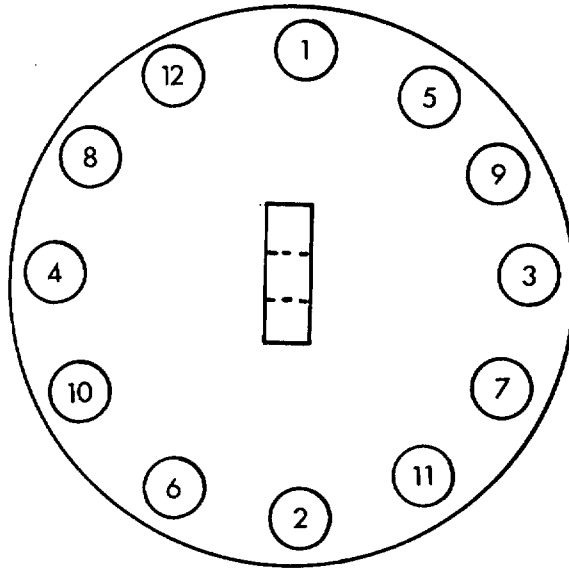

Figure 2-5. Treatment Tank Cover Torque Sequence.
- g. Connect the bleach line (tubing) to the metering valve (5). Remove the clamp that was placed on the tubing during the removal process.
- h. Remove the temporary plug in the vent line and connect the vent pipe (3).
- i. Apply teflon lubricant to the threads and install the drain plug (6).
- j. Refer to tags and notes and run external wiring through the bottom connectors (11) in the junction box. Make sure each cable is returned to the same location that it was removed from on the old unit. Tighten connectors until snug.
- m. Install tank access cover gasket and cover (1).
- (1) Make sure gasket surfaces are clean, and install the gasket.
- (2) Position the cover and install the 12 capscrews and washers (13). Make sure the gasket stays in position when installing the capscrews. Tighten capscrews to 31 ft-lb, using the sequence shown in FIGURE 2-5.